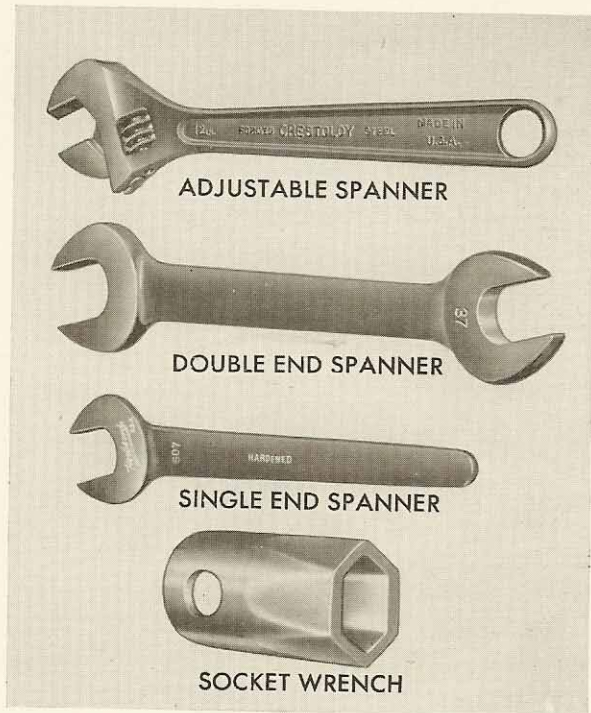

FIGURE 8-28
43. WRENCHES: Nuts are tightened or loosened with wrenches, of which there are various types. Figure 8-28 shows several.